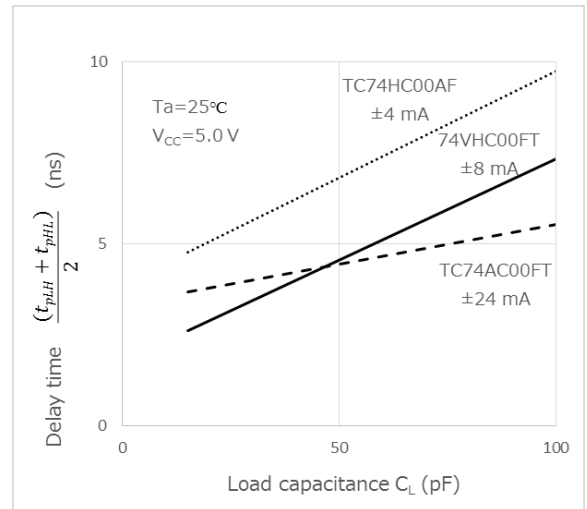

Figure 1.4 Propagation delay time vs. load capacitance
*2As shown in Figure 1.4, the AC and VHC series exhibit little difference in the propagation delay time when driving an output load capacitance (C_L) of 50 pF and therefore support an almost equal maximum operating frequency. For this reason, either the AC or VHC series can be selected according to the drive capability (output current) requirement.
Propagation delay times are dependent on load capacitance, as shown in Figure 1.4. As load capacitance (C_L) increases, the time required to charge and discharge the load increases. Therefore, ICs with larger load capacitance exhibit longer propagation delay times.
Figure 1.4 shows the propagation delay time-vs-load capacitance characteristics of typical ICs of the AC, VHC, and HC series that are commonly used in 5-V systems. The output currents of these ICs are: TC74AC00 = ± 24 mA, 74VHC00 = ± 8 mA, and TC74HC00 = ± 4 mA. ICs with a larger output current (I_{OH} and I_{OL}) are less dependent on load capacitance (C_L). In other words, their propagation delay times increase less with an increase in C_L . Note, however, that ICs with a large output current exhibit short output rise and fall times and therefore generate larger switching noise, reflection, crosstalk, and electromagnetic interference (EMI). It is therefore important to select ICs with an appropriate output current.